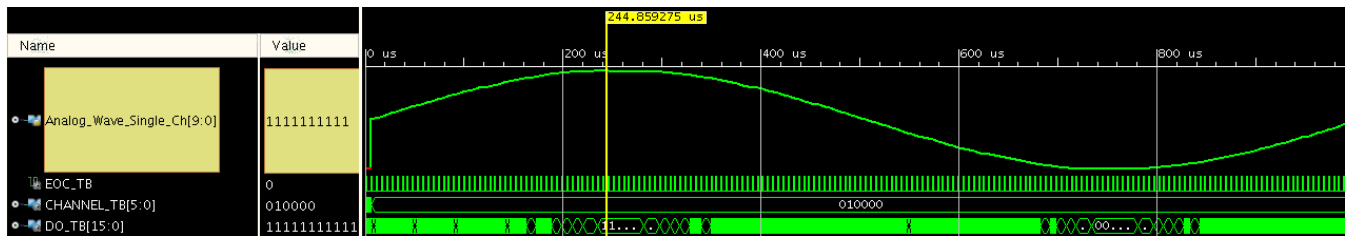
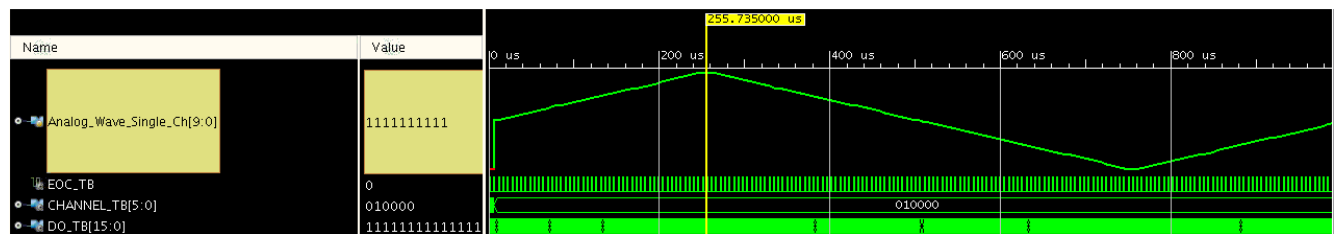
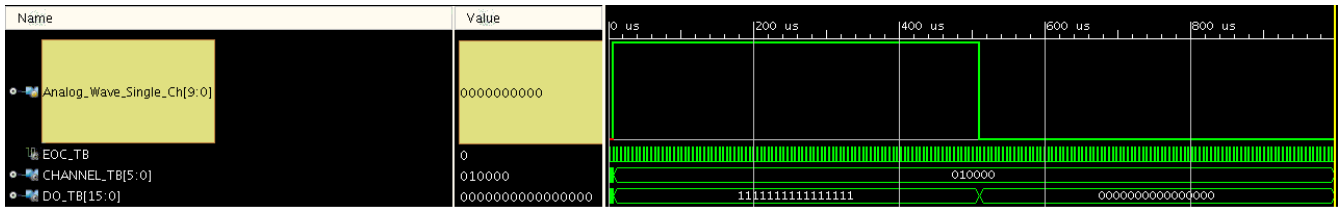

Figure 4-6: Sine Wave
Figure 4-7: Triangle Wave
Figure 4-8: Triangle Wave
- **Waveform Type:** Choose CONSTANT, SINE, TRIANGLE, or SQUARE wave as stimulus on external channel analog inputs. See Figure 4-6, Figure 4-7, and Figure 4-8 for examples of the waveform types.